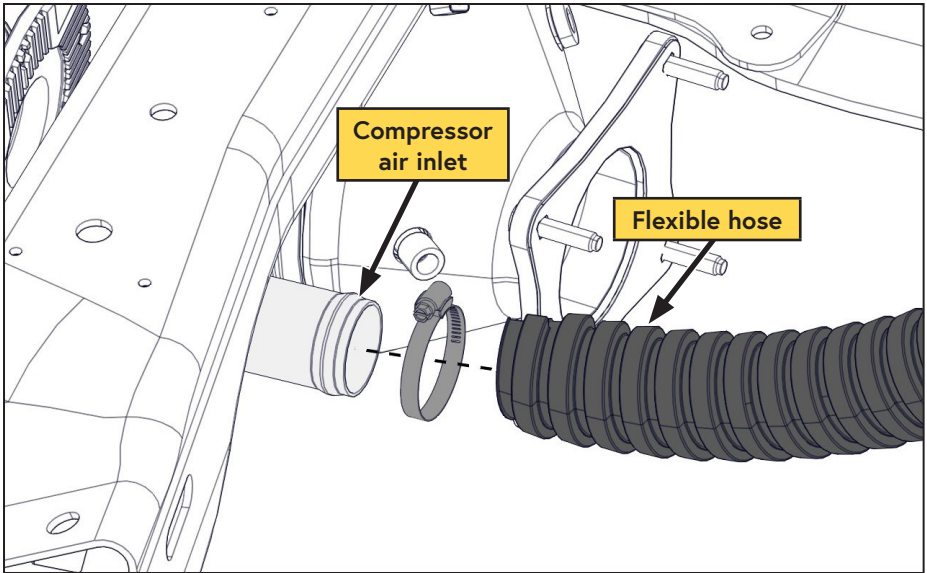

Figure 71 — Installing the air intake
- ☐ Install the flexible hose onto the intake tube using the supplied gear clamp (Figure 71).